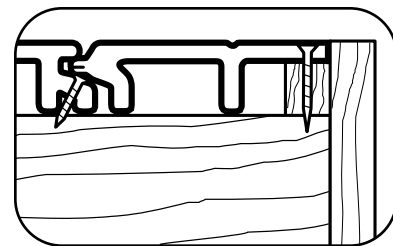

Fig. 7
- If last row is a partial-width plank, rip planks to fit, block with a 1x, and fasten as shown (Fig. 7, next page) through the plank face and block into the joist.